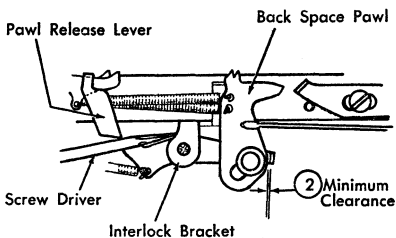

Figure 33. Increasing Interlock Clearance
2. INTERLOCK BRACKET POSITION. Form the interlock mounting bracket left or right to obtain a minimum clearance between the right angle lug of the interlock and the backspace pawl while the backspace pawl is in the rest position and the interlock is in its actuated position (Figures 33 and 34).